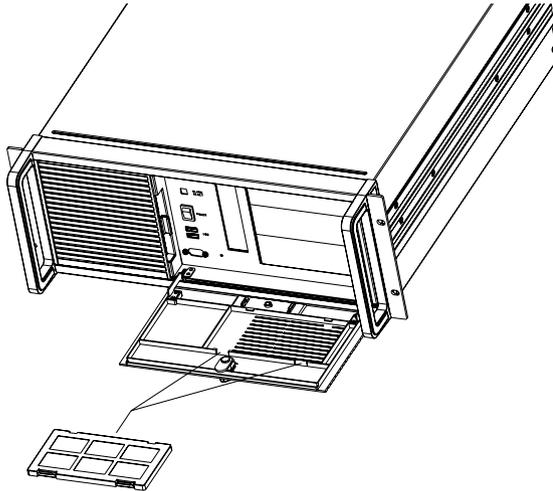

Figure 3.8: Removing the front door filter
2. Pull out the filter behind the front door by pushing the two clips; pull out the fan filter by pushing the hook and then slide it rightwards. (see *Figure 3.8* and *3.9*)